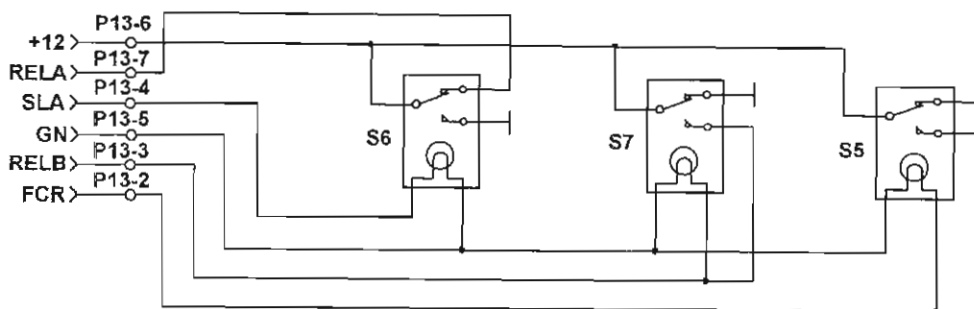

Figure 3-5. Power supply switch PCB.
**3-27. Power supply switch PCB (fig 3-5).**